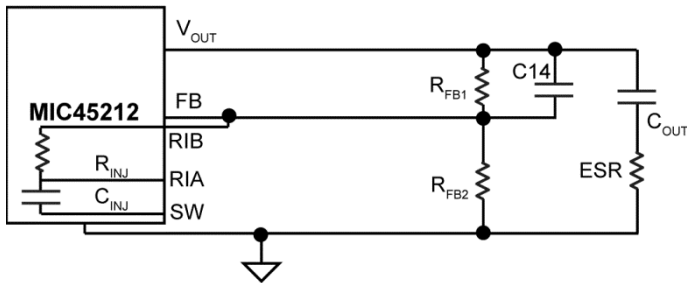

Figure 10. Internal Ripple Injection at FB via RIB Pin
2. Virtually no or inadequate ripple at the FB pin voltage due to the very-low ESR of the output capacitors, such is the case with ceramic output capacitor. In this case, the  $V_{FB}$  ripple waveform needs to be generated by injecting suitable signal. MIC45212 has provisions to enable an internal series RC injection network,  $R_{INJ}$  and  $C_{INJ}$  as shown in Figure 10 by connecting RIB to FB pin. This network injects a square-wave current waveform into FB pin, which by means of integration across the capacitor ( $C_{14}$ ) generates an appropriate sawtooth FB ripple waveform.